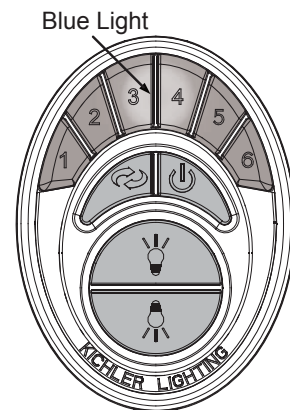

Fig. 23
3. Test the transmitter by pushing and releasing ANY button briefly. A Blue Light should illuminate under the 3-4 buttons. (Fig. 23) If not, check to make sure the batteries are inserted and seated correctly.